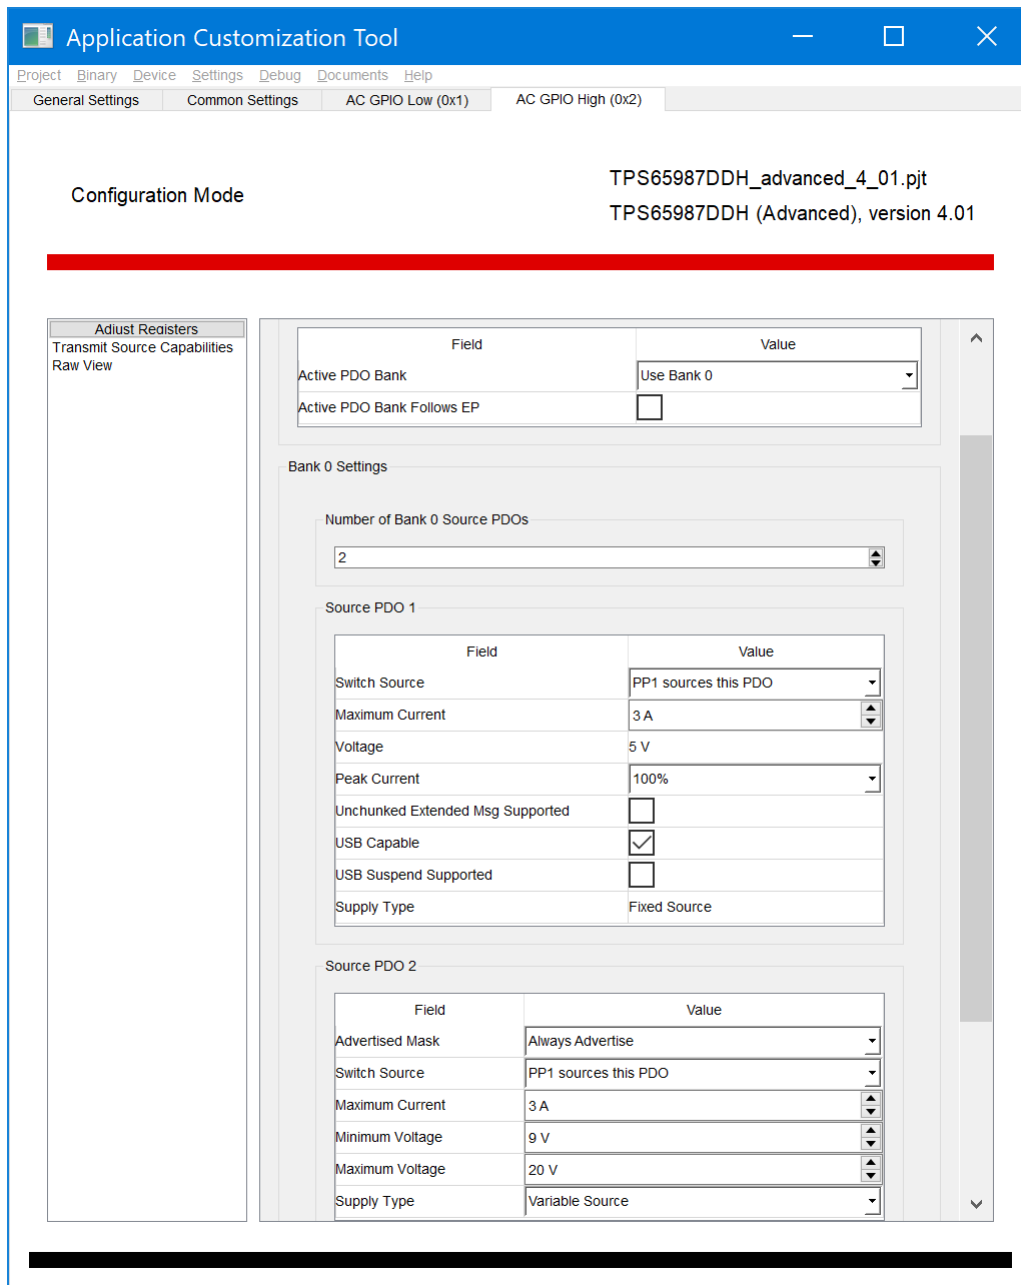

Figure 7. App Config GPIO Set Event, GPIO High Settings Example
- Adjust Registers in *AC GPIO High (0x2)* to set the behavior when GPIO4 transients from low to high. In this example, GPIO4 low to high transition would configure Transmit Source Capabilities register (0x32) with two PDOs as shown in Figure 7.